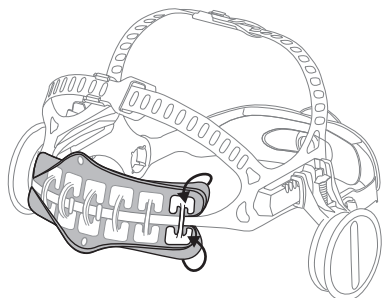

Fig. 11a
- b. Place the new sweatband corners around its retainer (Fig. 11a).